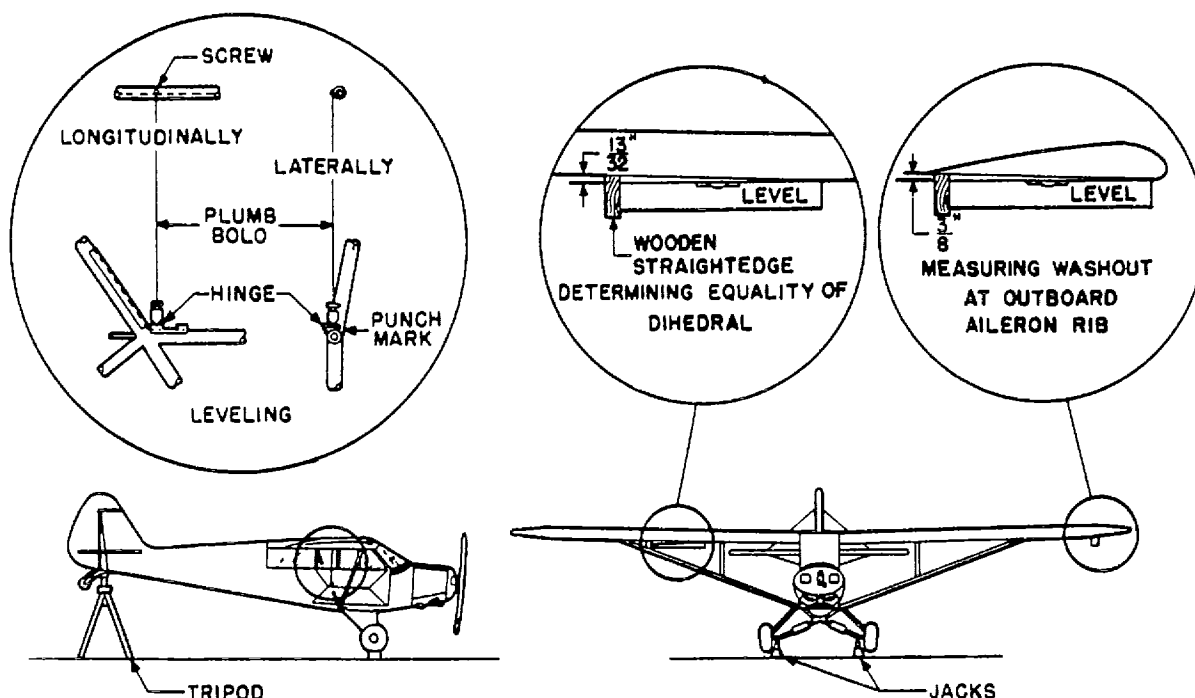

Figure 2-21. Rigging Diagram
**2-72. RIGGING DIMENSIONS.** (See figure 2-21.) Level the airplane laterally and longitudinally as explained in paragraph 1-14. Check alignment of the wings and tail surfaces according to figure 2-21. Perform all adjustments according to paragraphs 2-72, through 2-80.
**2-73. DIHEDRAL ANGLE.** (See figure 2-21.)
b. To determine the equality of dihedral of each wing panel, hold a wooden straightedge on the end of a 30-inch level so that one end of the straightedge protrudes 13/22 of an inch above the level (see figure 2-21) and place the combination along the front spar bottom between the lift strut and jury strut attachment fittings as illustrated in figure 2-21. The bubble should be approximately centered. Check the opposite wing panel in the same manner.
**2-74. WASHOUT.** (See figure 2-21.)
a. Check the washout of each wing by holding a wooden straightedge on the end of a 30-inch level so that one end of the straightedge protrudes 3/8 of an inch above the level (see figure 2-21) and placing this combination along the undersurface of the full rib next to the outer end of the aileron. The level end with straightedge spacer should be to the rear of the rib while the other end of the level should be placed under the front spar. Correct washout exists when the bubble is centered.
(Level airplane, see figure 2-21.) The tension of the tail brace wires will be adjusted to obtain 7/16 inch plus or minus 1/16 inch deflection when a load of 10 pounds plus or minus 1 pound is applied at right angles at the center of the wire. The rear spar of the stabilizer will be level and the elevator hinge line straight. The fin will be vertical at the rudder hinge center line.